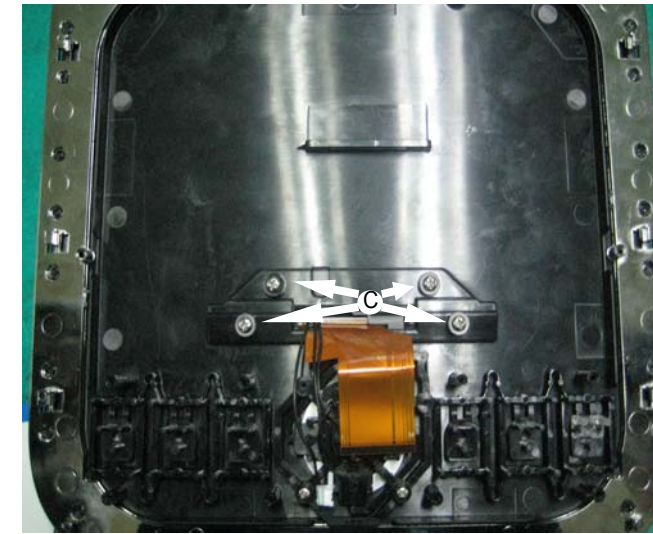

Figure 6
- 1) Loosen 4 screw "C" (S1 x 4) on the top cover as shown in figure 6.